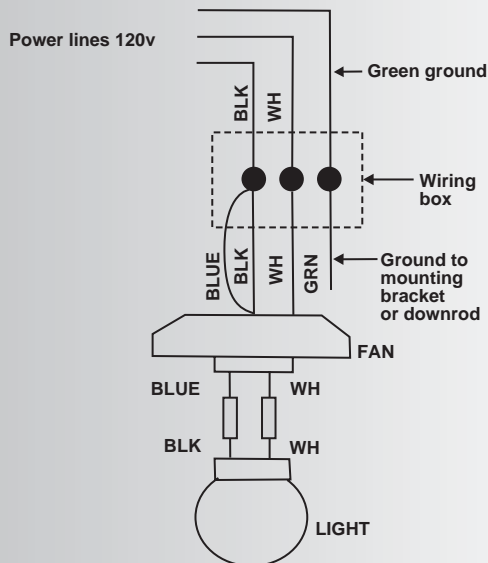

Fig. 7
Step 1 Connect the fan supply (black) wire and light supply (blue) wire to the black household supply wire as shown in Figure 7.